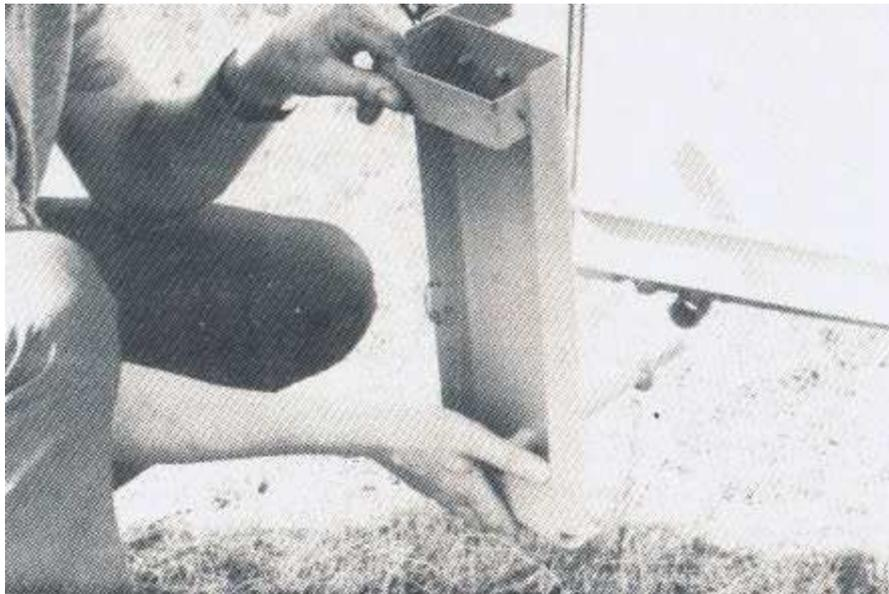

Fig. 37
11.2.1 The tube cases attached to the lateral pillars of the supporter are used for the photo of the tilting device. The stop pins prevent the gliding of the tilting device until these get up on the ground (Figure 37).